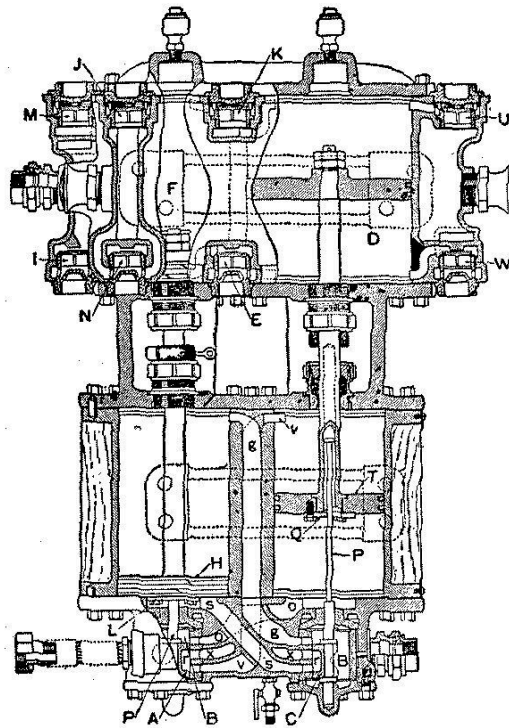
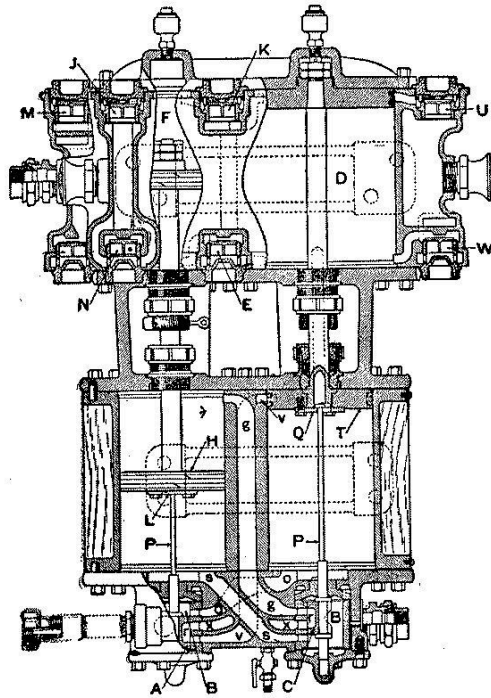

Fig. 19: Low Pressure Piston Moving Upward. High Pressure Piston at Rest.
Fig. 20: High Pressure Piston Moving Upward. Low Pressure Piston at Rest.
161. Q. What do Figures 19 and 20 represent?
A. Assuming both pistons are at the bottom of their cylinders, when the compressor throttle is opened, live steam will flow to both steam chests "B" (see Fig. 19), and through port "o" to the under side of the piston "T" and through port "g" to the upper side of piston "H". The steam under piston "T" will force it upward, and when it very nearly completes its stroke, the tappet plate "Q" will engage the button on the end of the tappet rod "P", moving the main valve "C" to its upper position. In this position the exhaust cavity "r" in the main valve connects port "g" with the exhaust port "X", thus allowing steam above the piston "H" to escape to the exhaust, at the same time steam is admitted through port "s" to the under side of piston "H", forcing it upward. As this piston very nearly completes its stroke, the tappet plate "L" (see Fig. 20) engages the button on the tappet rod "P", moving the main valve "A" to its upper position. Exhaust cavity "r" now connects port "o", which leads to the lower end of the cylinder at the right, with the exhaust port "X", thus allowing the steam under piston "T" to escape to the exhaust, at the same time steam is admitted through port "V" to the upper
A. As the piston in the low pressure cylinder "D" moves up (see Fig. 19), a partial vacuum is formed below it, and air flowing through the strainer passes downward through the air passage, then past the lower receiving valve "W" into the lower end of the cylinder, filling it with air at about atmospheric pressure. In the meantime the air that is being compressed above the piston holds the receiving valve "U" to its seat, and lifts the upper intermediate discharge valve "K" from its seat, allowing the air to pass from the low to the high pressure cylinder "F". The high pressure piston now moving up causes a partial vacuum to be formed below it, and air from the atmosphere flows past the lower receiving valve "N", filling this end of the cylinder with air at about atmospheric pressure. The air above the piston being compressed, holds the upper intermediate valve "K" and receiving valve "J" to their seats and lifts the upper final discharge valve "M", allowing the air to pass to the main reservoir. The action is the same on the down stroke, only air is compressed in the opposite end of the cylinders and the opposite air valves are used.